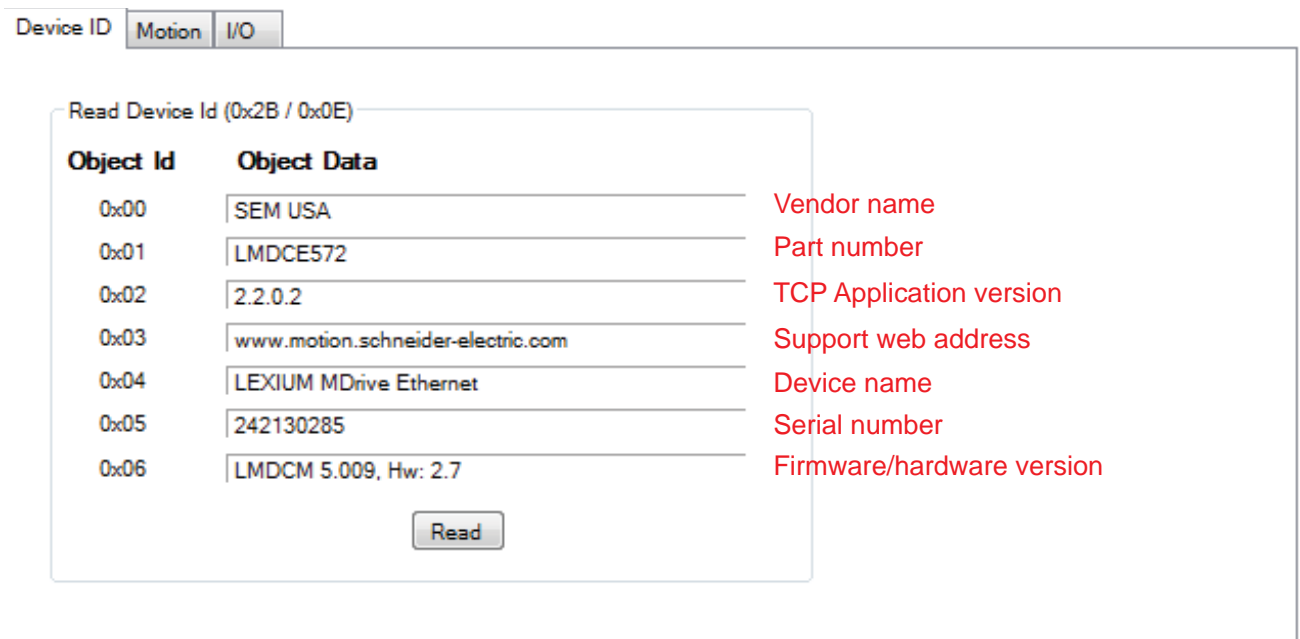

Figure 6.9: Lexium MDrive MODBUS/TCP Device ID object
- ◁ With the Device ID tab visible, click the “Read” button to read the device ID (0x2B) Object data. See Figure 6.9.